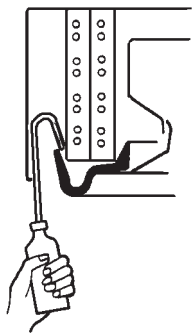

Fig. 34 — Inserting Water into Drain Pan
- b. On the opposite side of the drain connection, insert a water bottle up into the fan coil unit and fill drain pan. Refer to Fig. 34. Water must flow regularly with condensate pump energized. If water does not, check the pipe slope or see if there are any pipe restrictions.